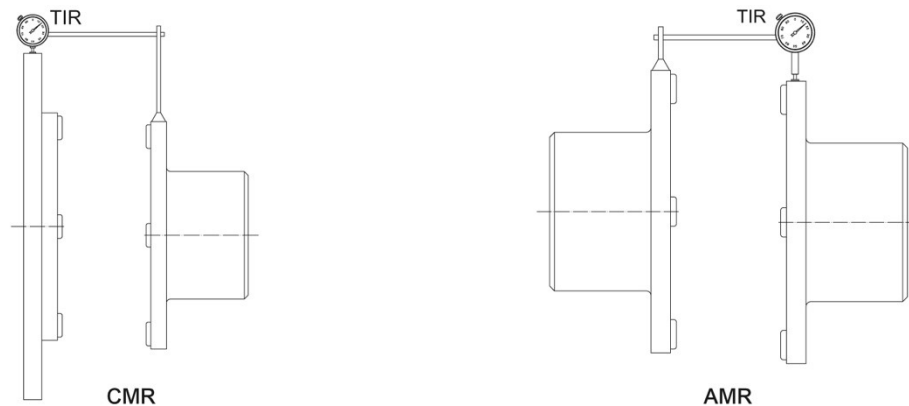

Figure 7 – Parallel Misalignment “TIR” (Total Indicated Reading)
- 9.5. When Parallel Offset is measured by rotating the hubs with dial indicators as shown in Figure 7, the total indicated reading (TIR) should be divided by 2 to calculate “P”.